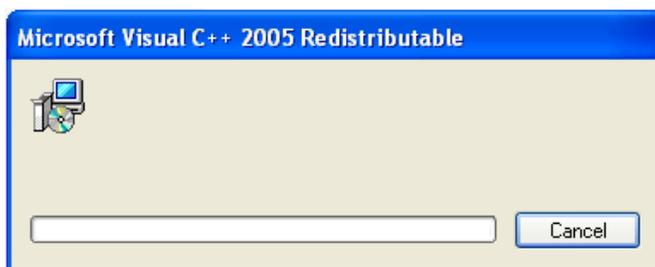

Figure 14. Install Microsoft Visual C++ 2005 Redistributable package
- b. You also need to install the Microsoft Visual C++ 2005 Redistributable Package "vcredist.exe", which is included in the installation package. Double click "vcredist\_x86.exe" and follow the instructions displayed during the installation, as shown in Figure 14.